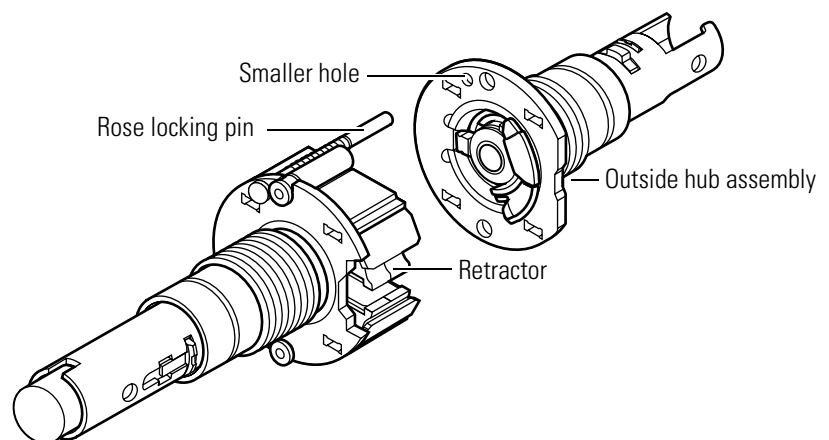

Figure 3.22 Reinstalling the retractor
6. Align the feet of the retractor assembly with the notches in the outside hub assembly, and the rose locking pin with the smaller of the two holes on the outside assembly, as shown in Figure 3.22. Press the retractor toward the retractor springs and slide the two sections together.